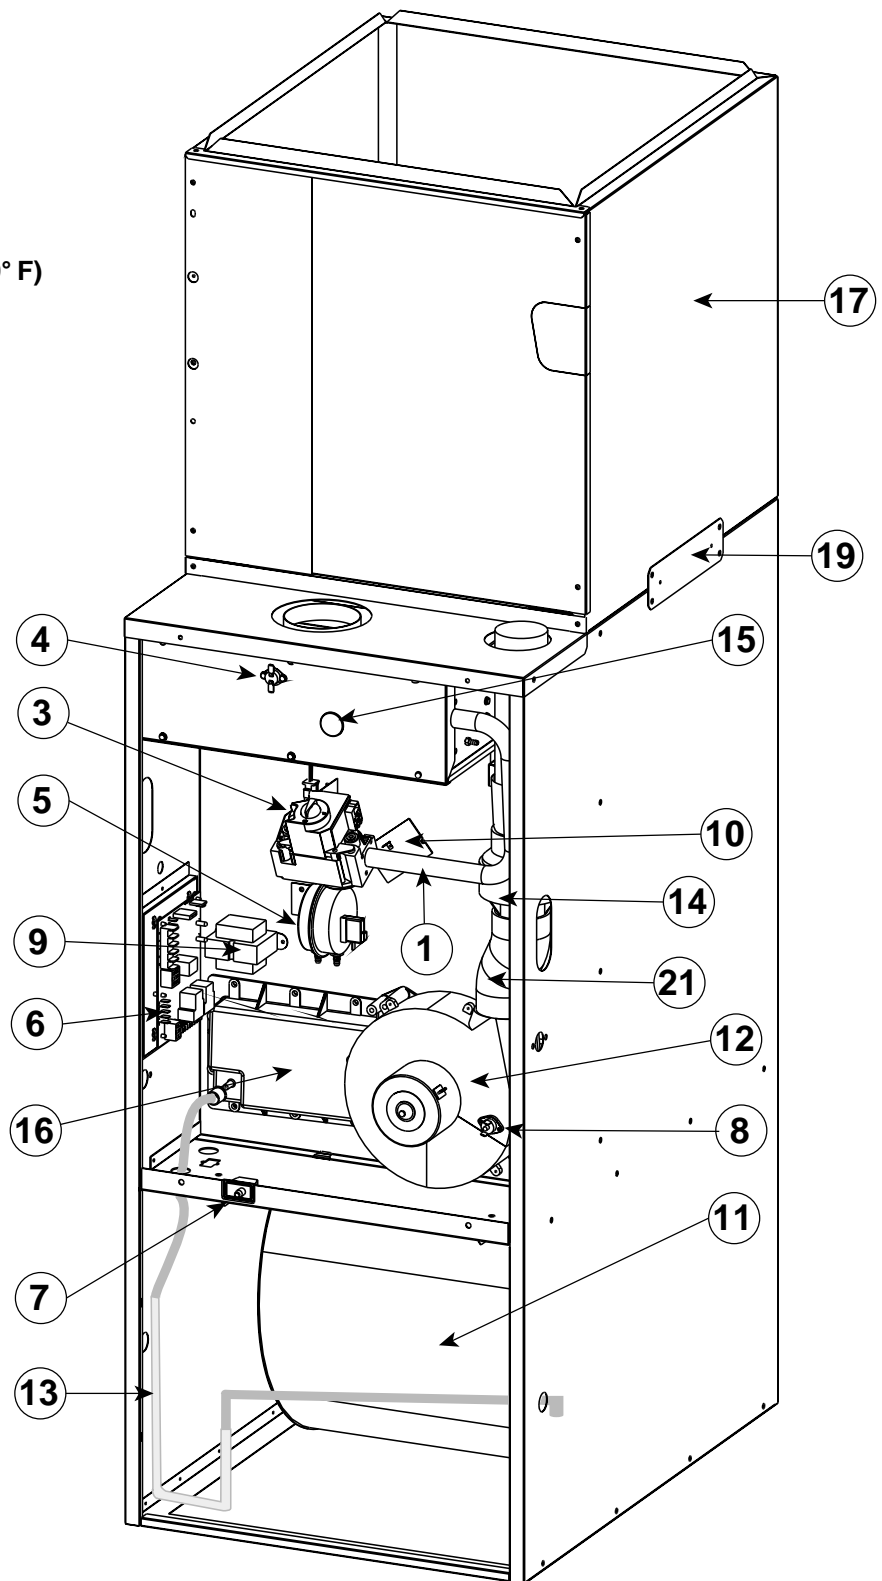

Figure 30. M2RC Location of Major Components
If the furnace locks out after 5 attempts for ignition, it will try again every hour if a call for heat remains. If the inducer and circulating air blowers are operating, and items 1 through 8 have been checked, press the red reset button on the vent safety switch. (See Figures 30 & 31.) If the furnace operates after depressing the reset button, contact a qualified service technician to identify and repair the problem.